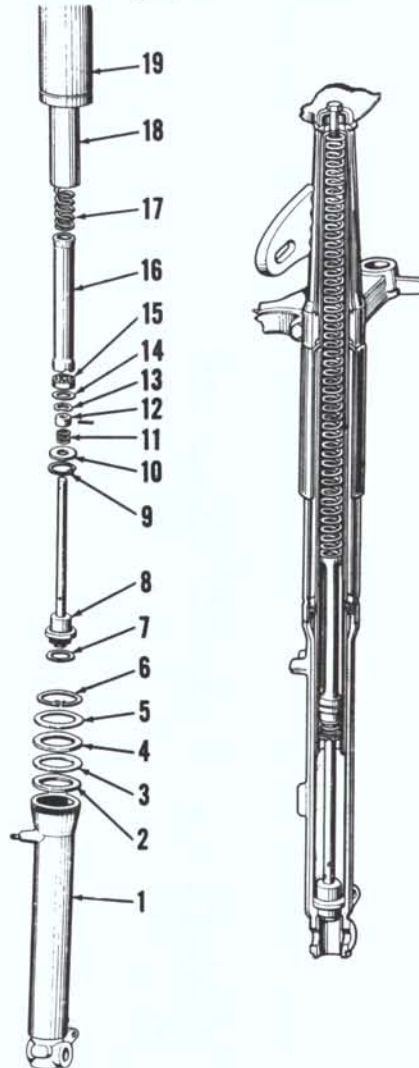

Fig. BE2-4—View of the front suspension unit. To disassemble, turn plug end of valve (8) clockwise through hole in bottom of lower sliding tube (1).
the valve (8—Fig. BE2-4) from the lower sliding tube (1).